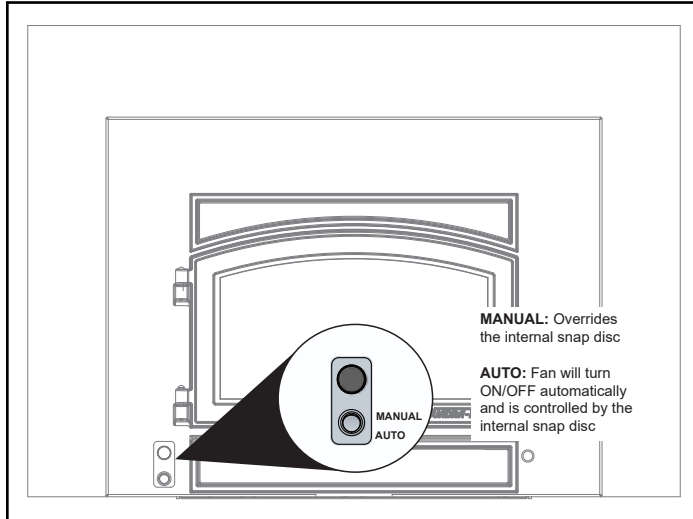

Figure 14.1
1. The blower will turn on/off automatically when set to AUTO (**Figure 14.1**).